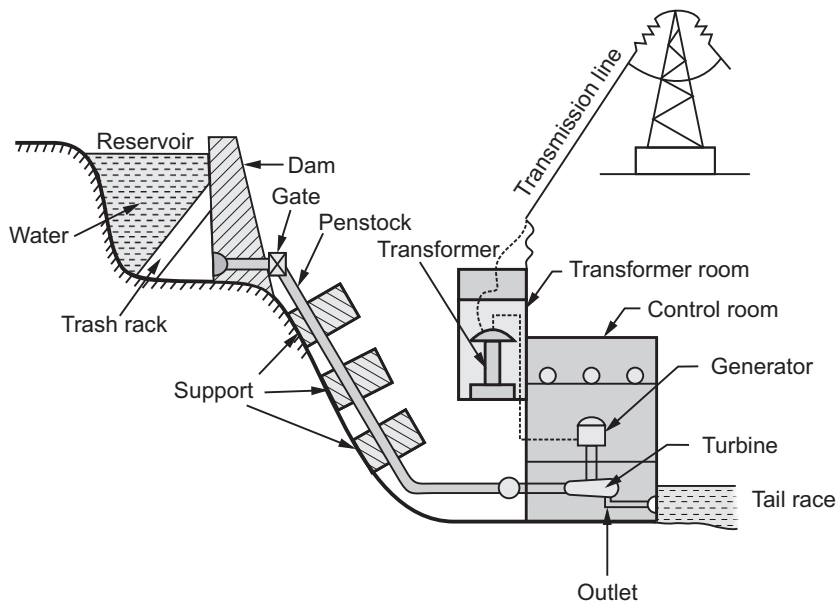

Fig. 1.6 : Hydroelectric power plant
- Fig. 1.6 shows the general layout of hydroelectric power plant.